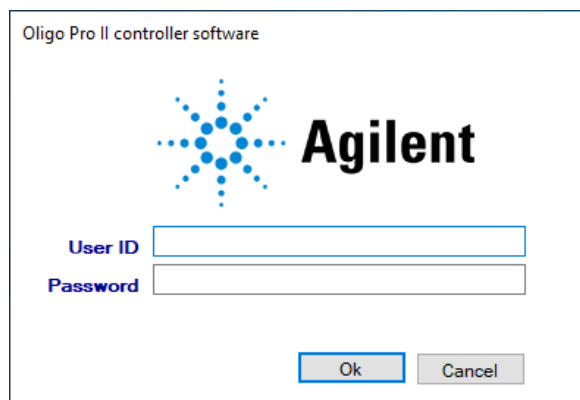

Figure 2 Login menu
- 2 To log into the Oligo Pro II software, type **Administrator** or **User** into the **User ID** field of the login window (**Figure 2**).
After logout, the login menu opens (**Figure 2**).